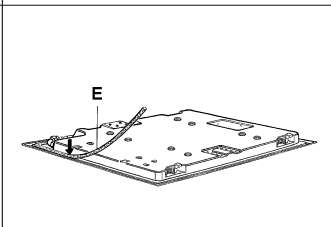

FIG. 9
- Turn the hotplate over and correctly position seal "E" (fig. 9) under the edge of the hotplate itself, so that the outer side of the seal perfectly matches the outer edge of the hotplate. The ends of the strips must fit together without overlapping.